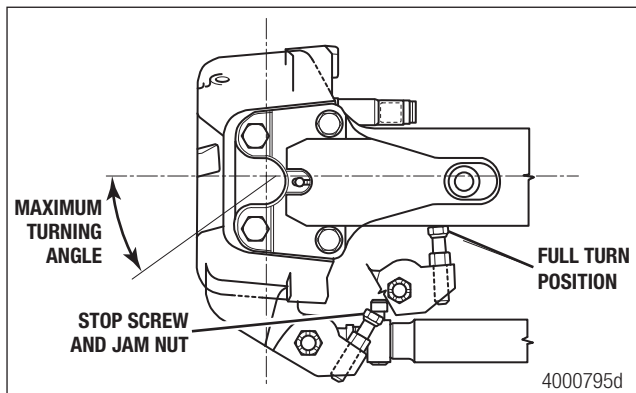

Figure 15.1
2. Lock the steering stop in position with the jam nut tightened to the correct torque. Figure 15.1.